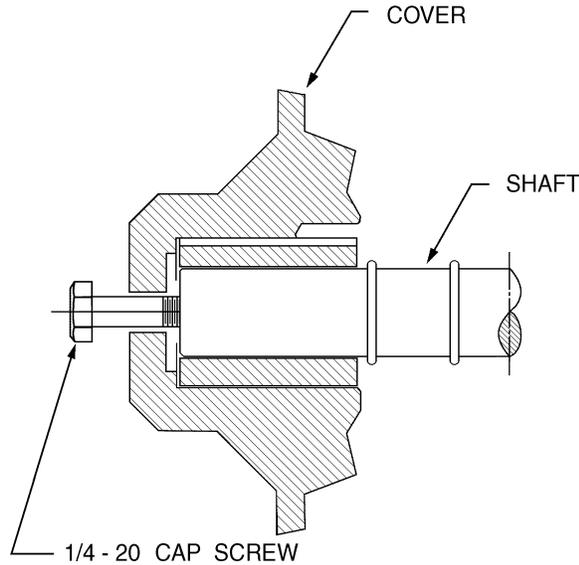

Figure 6
19. Install the rear housing screws (items 26). Tighten evenly to 72 in. -lb (810 N-cm) in an “X” pattern in small intervals (**do not** tighten one side excessively and then tighten the opposite side, as this will tend to crush the TFE “O”-ring and cause a leak).
20. Omitting the front cover “O”-ring, trial assemble the front cover with no shims (item 3).
- a) Install and hand tighten the cover bolts (items 15) evenly.
- e) After the shims are in place, install the O-ring (item 28) over the inner barrel of the front cover, seating it fully and smoothly against the shoulder.
- f) Install the cover, taking care to avoid damage to the outer bearing (item 9) and ensuring that the O-ring seats in the rabbet in the rear housing without pinching. Install the cover bolts (item 15) and tighten to 220 in-lb. (2490 N-cm) using the pattern shown in *Appendix B*.
- g) Remove the pipe plug (item 27) from the central face of the front cover to expose the tapped hole in the end of the shaft and thread a 1/4-20 screw into the shaft to rotate the shaft (refer to **Figure 6**). With the screw bottomed hand-tight in the shaft, free axial play of the shaft relative to the impeller can be confirmed by alternately pushing and pulling the screw. This condition is essential since it confirms that the impeller floats axially on the shaft. If there is significant resistance to rotation, additional shimming is required, using a starting value of 0.002”.